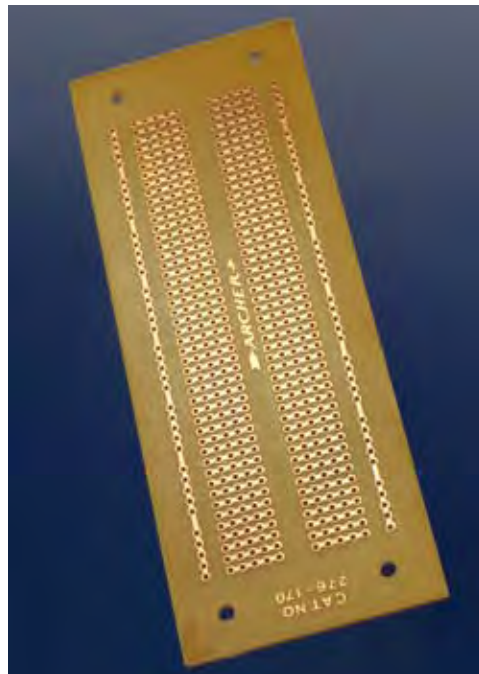

Figure 3-72. Perforated board etched with copper in variants of a breadboard layout. This example is appropriate for Experiment 15.
2. Breadboard-style wiring. Use perforated board that is printed with copper traces in exactly the same pattern as the conductors inside a breadboard. Once your circuit works on the breadboard, you move the components over to the perfboard one by one, maintaining their exact same positions relative to each other. You solder the “legs” of the components to the copper traces, which complete the circuit. Then you trim off the surplus wire. The advantage of this procedure is that it’s quick, requires very little planning, and minimizes the possibility for errors. The disadvantage is that it tends to waste space. A cheap example is shown in Figure 3-72.